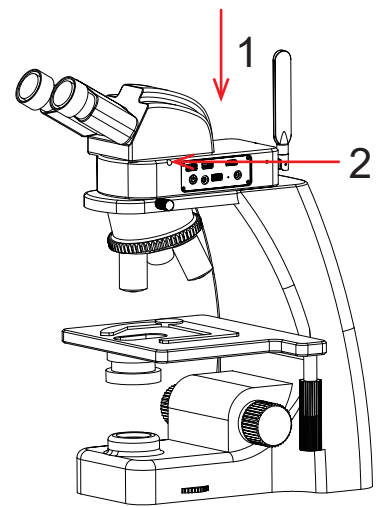

Figure 3
(3) Installation for the objective end of the microscope, as shown in Figure 3: